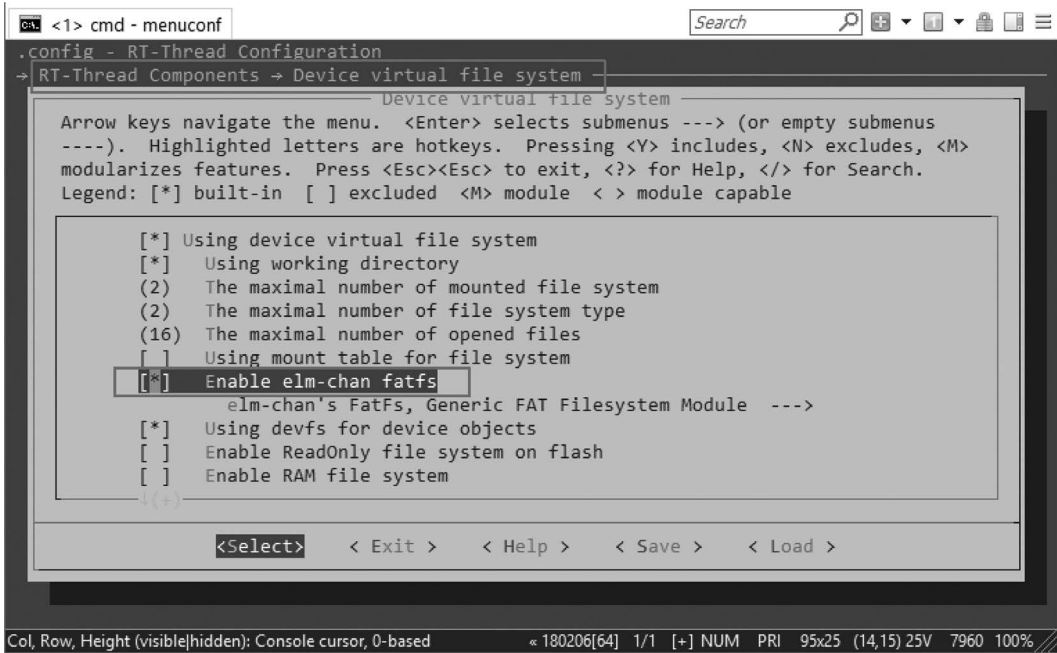

FIGURE 11.23 Enable file system.
3. Enable the file system according to the menu directory prompt in Figure 11.23.